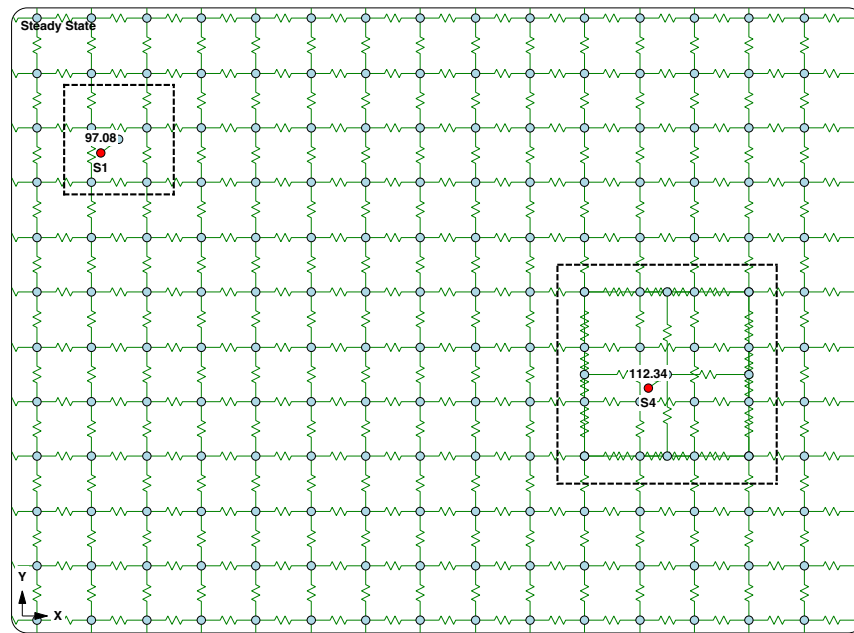

Figure 2-40: Zooming in on DPAK and QFP
Next, zoom in to match Figure 2-40:
**<F3 Zoom In> -> zoom in to match Figure 2-40**